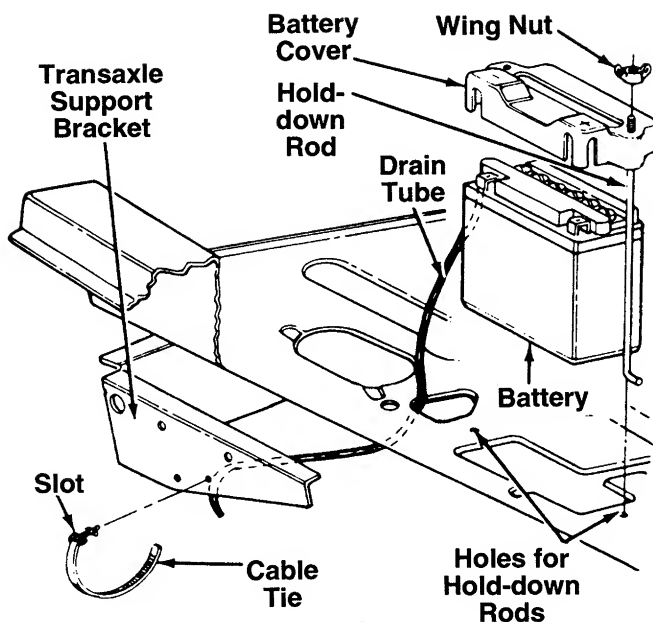

FIGURE 13.
4. Secure the battery in place with battery cover and hold-down rods. Secure with two wing nuts. See figure 13.
5. Route the clear plastic drain tube down through the hole in the frame, next to the engine drain plug, shown in figure 13.